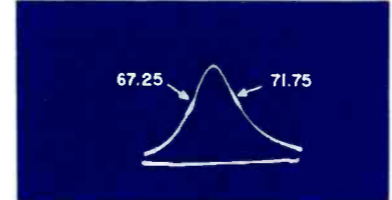

Fig. 18 Channel 4 RF Response. This Curve is Representative of Other Channels
4. Turn the channel selector to channel 13 and adjust sweep generator to obtain a response curve similar to Fig. 18. Spread or squeeze the channel 13